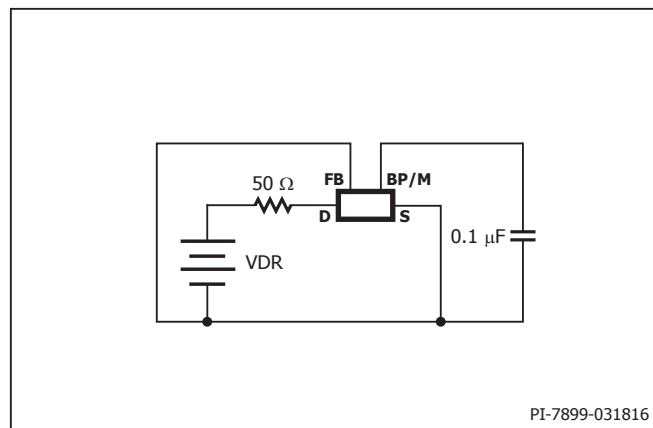

Figure 13. LinkSwitch-TN2 Minimum On-Time Measurement.
- I. Measured using circuit in Figure 13 with 50 Ω drain pull-up. The width of the drain pulse is measured as the time from $V_{FALL} = 42$ V to $V_{RISE} = 40$ V (VDR = 50 V), for LNK3206/05/04 and as the time from $V_{FALL} = 32$ V to $V_{RISE} = 30$ V on rising edge (VDR = 35 V), for LNK3202.